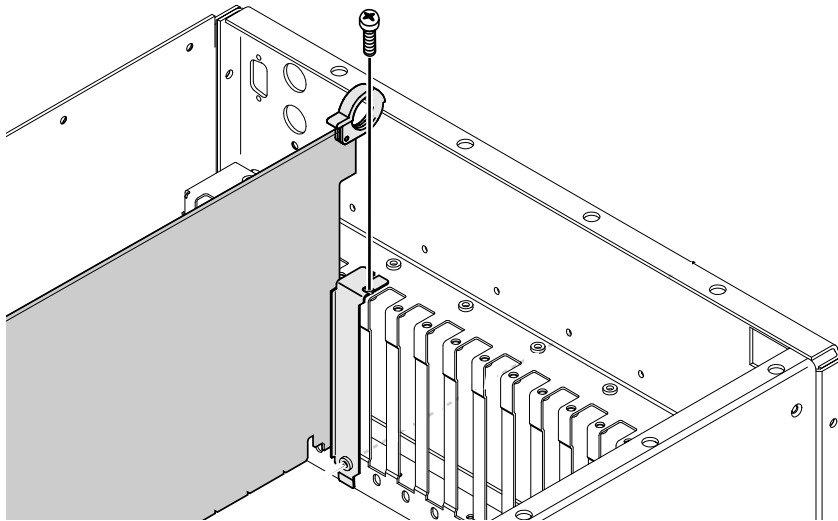

Figure 1-3 Screw locations for board mounting bracket
7. Install the mounting screw in the top of the bracket inside the cabinet (as shown in Figure 1-3).